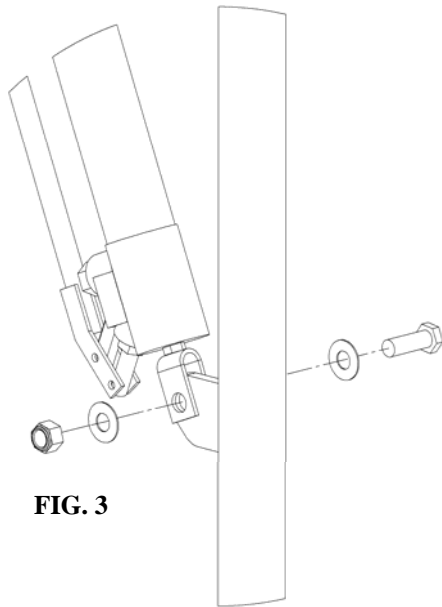

FIG. 3
4. Connect the lower end of the hydraulic ram to the Handy-Lift mast with one 1/2"x1-1/2" hex head bolt, two washers, and a nylon locking nut. **FIG. 3**